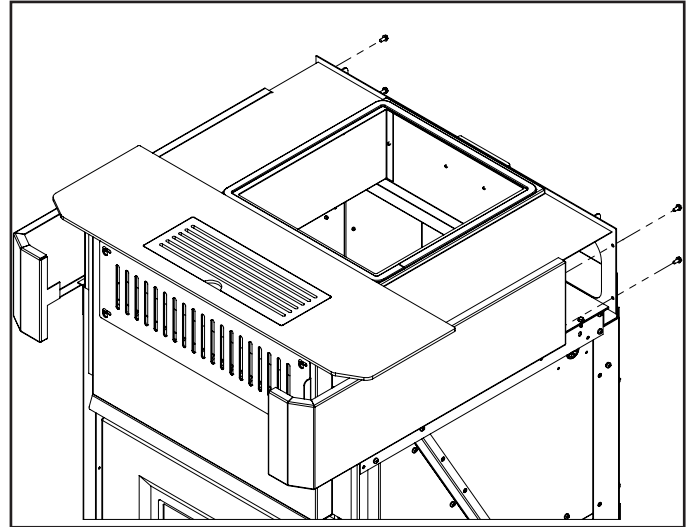

Figure 15: Cabinet side extension install.
14. Attach Cab Extensions to back plate using two #8 sheet metal screws on each side. Mount one hinge using #8 T-20 screws, see figure 15.